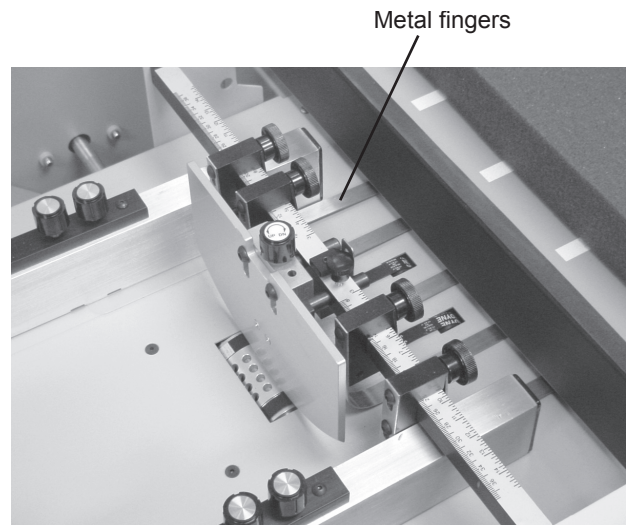

Fig 7
3. Guide the metal fingers under the blind roller and slide the table into position (Fig 7).